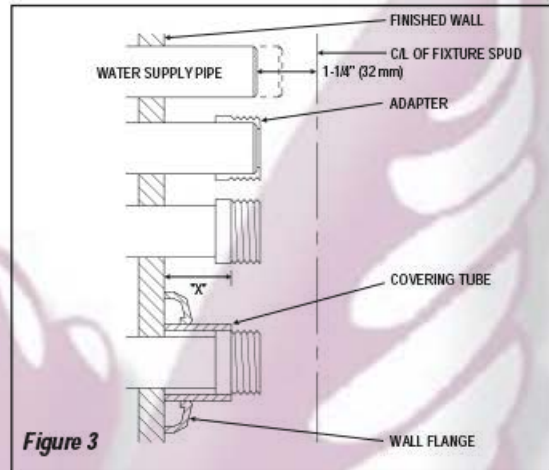

Figure 3
For Sweat Solder applications, see the following instructions & Figure 3:
- Determine length of Covering Tube by measuring distance from finished wall to the first thread of Adapter (dimension "X" in Figure 3). Cut Covering Tube to this length.